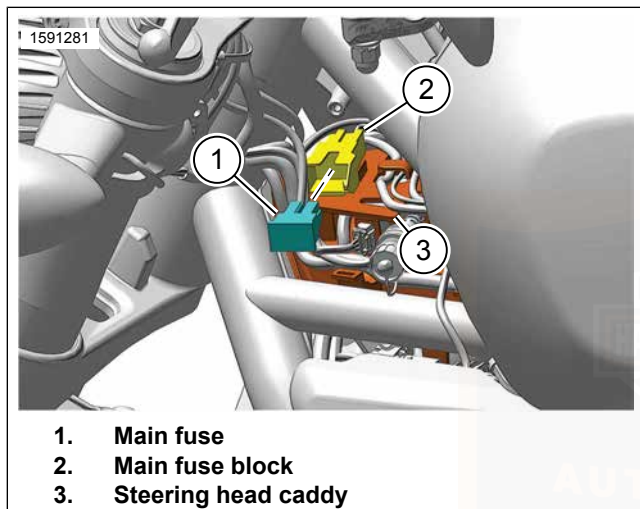
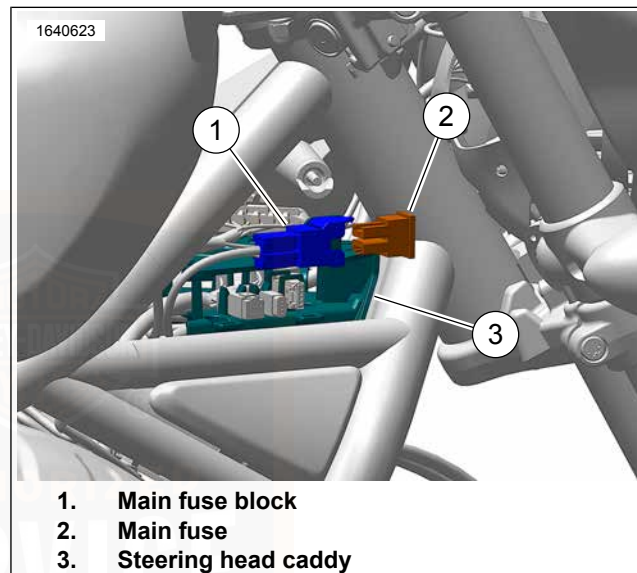

Figure 97. Main Fuse Location (RH1250S)
Figure 98. Main Fuse Location (RH975)
3. Remove main fuse block (2) from steering head caddy (3).
4. See Figure 97 or Figure 98. Remove main fuse (1).
1. See Figure 97 or Figure 98. Install main fuse (1).
2. Install main fuse block (2) into steering head caddy (3).